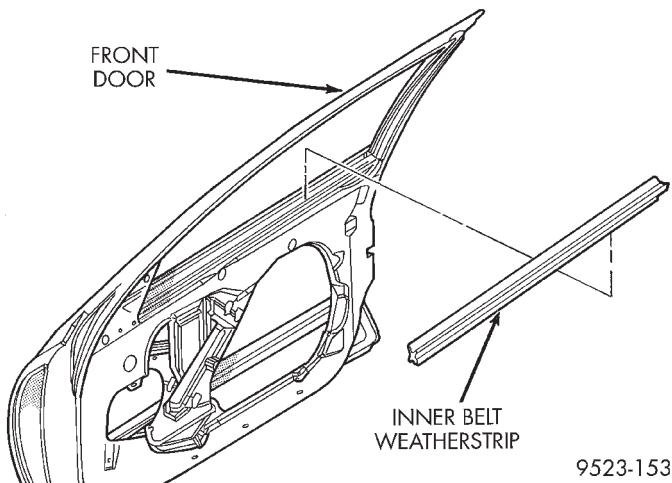

Fig. 12 Front Door Inner Belt Weatherstrip
- (1) Remove front door trim panel.
- (2) Pull upward at rear end of inner belt weatherstrip.
- (3) Separate inner belt weatherstrip from vehicle (Fig. 12).